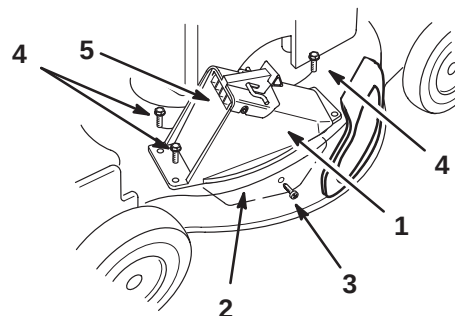

Figure 35
1. Grommet (4)
7. Insert the tongue of the discharge tunnel into the lawn mower (Fig. 35).
8. Align the holes in the tunnel with the grommets in the lawn mower (Fig. 35).
9. Ensure that the hole in the tongue aligns with the hole in the side of the lawn mower (Fig. 35).
4. Bolt (3)
10. Install the self-tapping plastite screw supplied with the grass catcher into the side hole and tongue, and partially tighten the screw (Fig. 35).
11. Using three screws supplied with the grass catcher, fasten the discharge tunnel to the lawn mower (Fig. 35).
14. Open and close the tunnel door to ensure that it moves freely (Fig. 35).